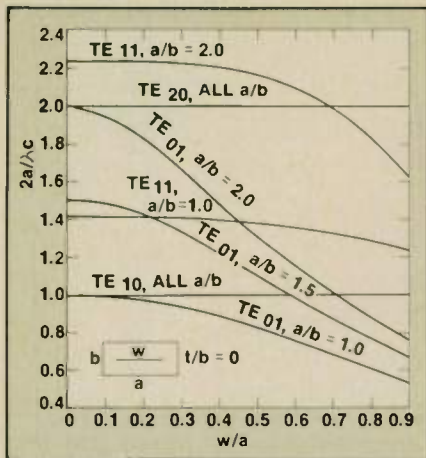
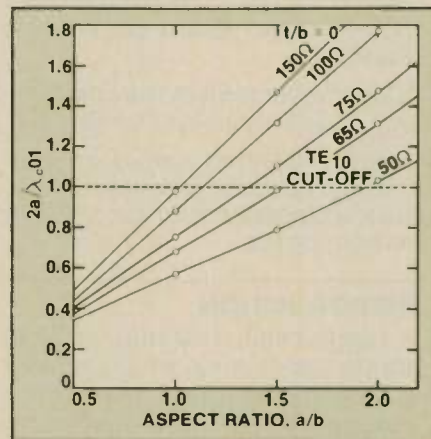

Fig. 1 Normalized cut-off frequency versus w/a for different H-modes in rectangular strip lines with $a/b = 1.0, 1.5$ and 2.0 .
Fig. 2 Normalized cut-off frequency versus a/b for the TE_{01} mode in rectangular strip lines of different characteristic impedance.
An examination of the technical specifications published by both manufacturers of commercially-available devices shows that the advertised upper frequency limit appears to have been derived using the criteria $\lambda_c/2=b$, where "b" is the internal height of the line's cross section as shown in Figure 1 and λ_c is the cut-off wavelength. In the case of the IFI Crawford cells, a 20% safety factor reduction appears to have been applied to the cut-off value predicted using the above criteria in the case of Model Nos. CC-101, 101.5, 102, and 103, but not for the smaller Model Nos. CC-105 and 110. No safety factor has been applied in
These predictions have been recently confirmed by Gruner³ who has analyzed the higher order mode properties of rectangular strip lines with thin center conductors. In his paper, Gruner shows that a close analogy does exist between rectangular waveguide and rectangular strip-line. However, the cut-off for TE_{mn} and TM_{mn} modes is altered relative to that in waveguide for all cases in which the integer "n" is odd while the cut-off for the "n" even modes remains unchanged for the strip line with an infinitely thin center conductor. Of the two sets of modes whose cut-off is altered, the H-modes (TE) are more significant, since cut-off is generally lowered relative to that of waveguide for these modes. In Figure 1, Gruner's data have been replotted in terms of the normalized cut-off frequencies versus the parameter w/a , for four different H-modes and three aspect ratio values $a/b = 1.0, 1.5$ and 2.0 (Data on the TE_{01} mode characteristics were obtained from Reference 3 while the TE_{11} mode data were derived from a subsequent paper dealing with crossed rectangular strip-line structures⁴.) The cut-off for the
TE_{10} mode remains unaltered by the presence of the strip conductor and continues to be governed by the criteria $\lambda_c = 2a$. Since the TE_{10} cut-off is invariant with respect to w/a , it appears in Figure 1 as a horizontal line at $2a/\lambda_c = 1.0$. When the curves labelled TE_{01} in Figure 1 pass below the horizontal TE_{10} line a condition exists whereby the TE_{01} mode rather than the TE_{10} mode is the first higher order mode to propagate. It can be seen that this condition always exists in the square structure ($a/b = 1.0$) while for larger values of a/b it occurs over a more limited range of the parameter w/a . Data on the TE_{11} mode have been included in Figure 1 because it was important
In order to eliminate the parameter w/a , it is instructive to replot the data of Figure 1 in terms of the normalized TE_{01} frequency cut-off versus aspect ratio a/b for several different values of characteristic impedance, Z_0 . The characteristic impedance data for rectangular strip-lines were derived from Weil's review². From Figure 2, it is apparent that this relationship is close to linear and can be extrapolated to the left, giving TE_{01} cut-off data for values of $a/b < 1$. The curve labelled '50Ω' in Figure 2 provides some useful and practical data on most exist-
Using Figure 2, it can be shown that the correct TE_{01} cut-off criteria for the IFI series of Crawford cells, which have an a/b ratio of 1.5 and a characteristic impedance of 55 ohms, is given by $2a/\lambda_c = 0.80$. Similarly, the correct criteria for the Narda TEM transmission cells, which have an a/b ratio of 1.667 and a 50 ohm characteristic impedance is given by $2a/\lambda_c = 0.85$. The corrected values for TE_{01} cut-off derived using these criteria, are listed in Table 1 for both series of commercially-available equipment. The upper frequency limit of operation recommended by the manufacturer is also shown for comparison purposes, as well as the intermediate cut-off for the TE_{10} mode. Similarly, Table 2 gives the corrected upper frequency limit for the TEM transmission cells designed and built by Crawford at NBS¹.
Extending the frequency range of rectangular strip-lines basically involves selecting a design such that the TE_{01} mode cannot propagate at frequencies below the TE_{10} mode cut-off. In general, this can be accomplished by reducing the value of the parameter w/a ; this in turn raises the characteristic impedance of the line. This process can be accomplished with the aid of Figure 2. As pointed out already, there exists a minimum aspect ratio a/b of 1.93 for the 50 ohm line if the above criteria is to be met. Lowering the aspect ratio requires a progressive increase in the characteristic impedance in order to realize full bandwidth capability. For example, the impe-
dance needs to be increased to about 65 ohms for a line with $a/b = 1.5$. However, it is evident from Figure 2 that a limit to this process is reached as a/b approaches 1 since the TE_{01} mode is always the first higher order mode in the square ($a/b = 1.0$) structure for any non-zero value of w/a .